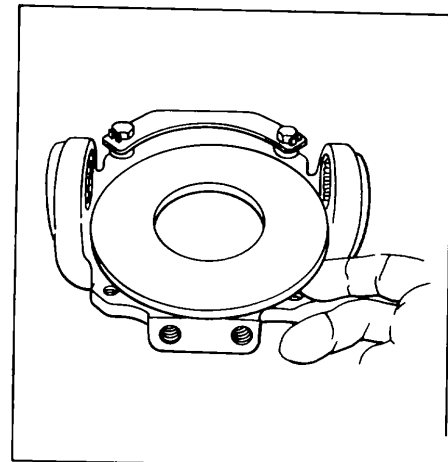

Figure 124.
15. Slip out piston return plate (19) and piston assemblies (18). Pick wear plate (20) from cam assembly (12). See Fig. 124.